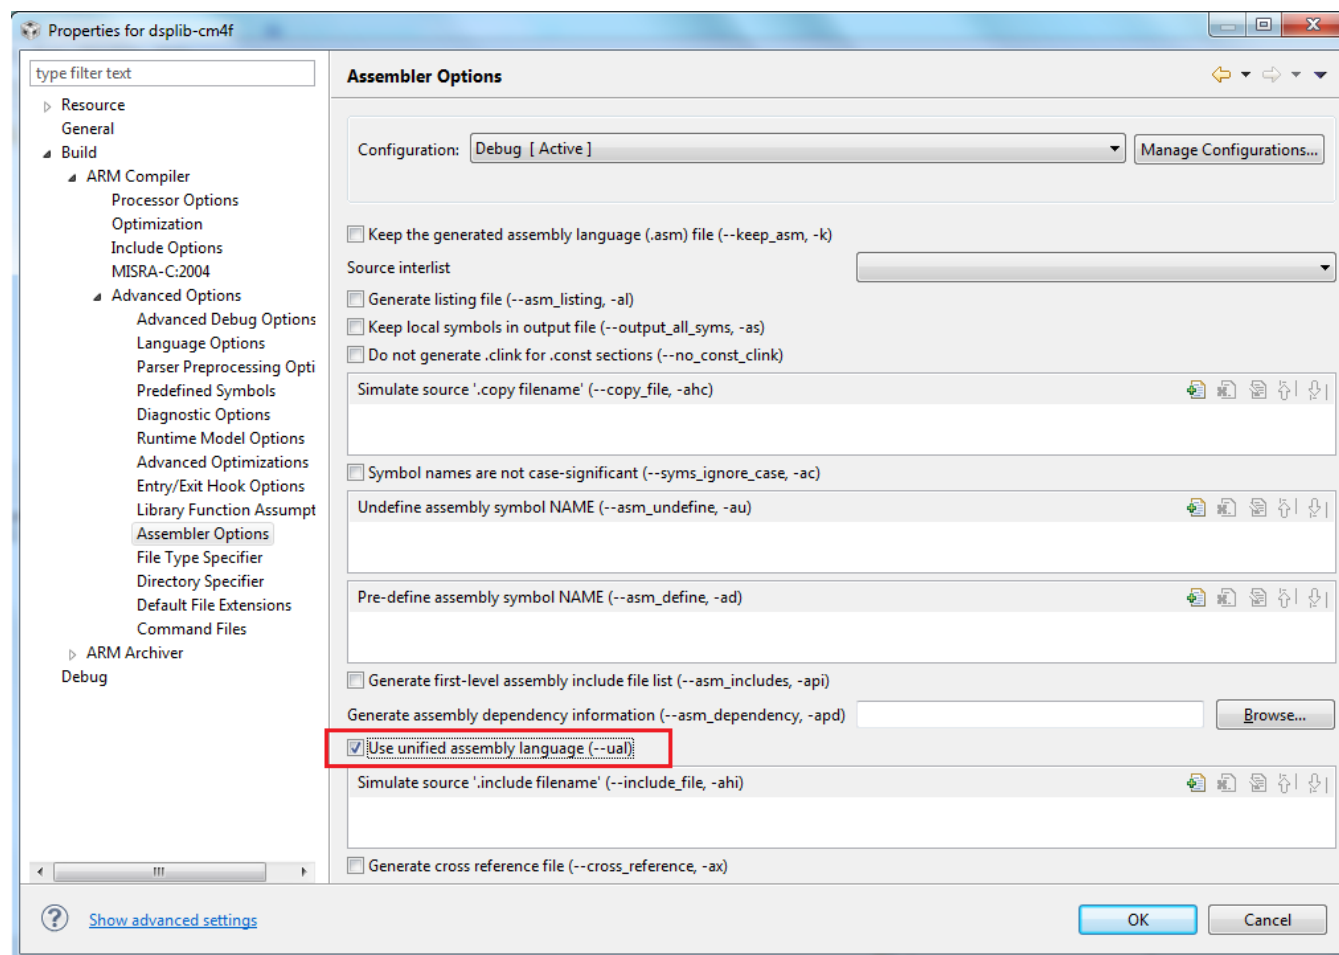

Figure 7. Setting the Assembler to Use Unified Assembly Language
6. Click the *Use unified assembly language (--ual)* checkbox to select that option (see Figure 7).